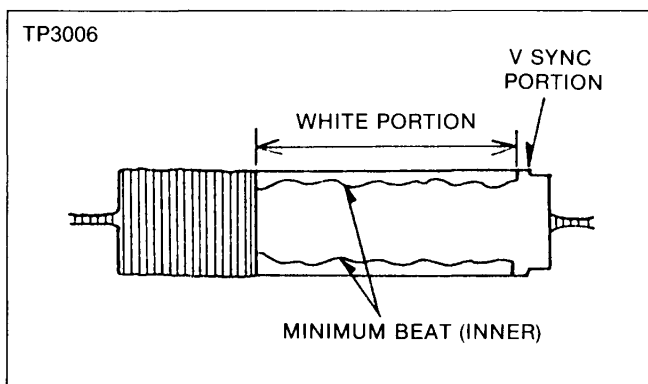

Figure E13
6. Adjust VR3003 so that the inner beat at white portion of the colour bar becomes minimum as possible as shown in Figure E13.